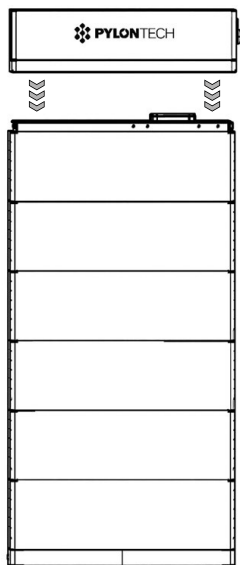

Fig. 3.8 - BMS pile up
- Slowly place down the control module (BMS) on the installed battery module (Fig. 3.8).